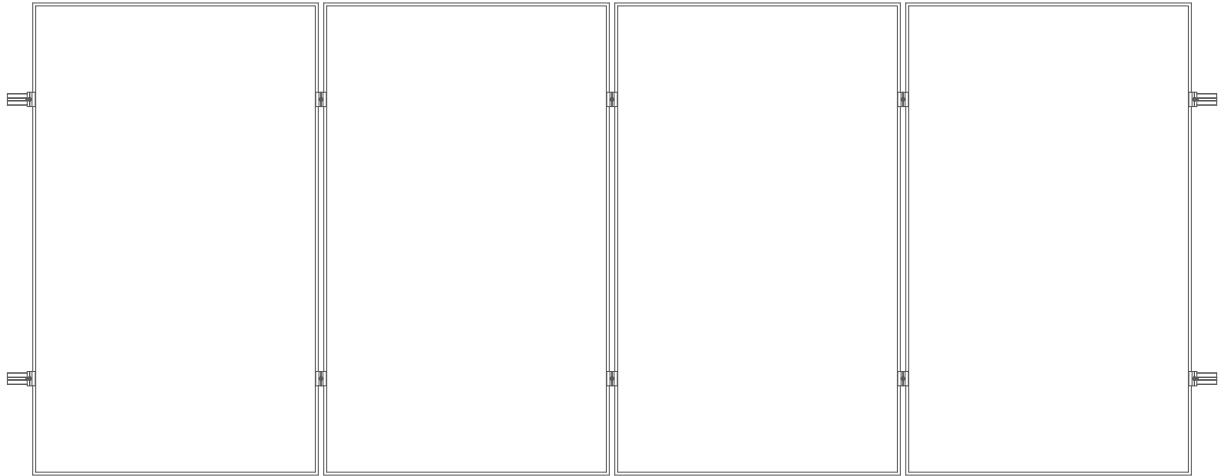
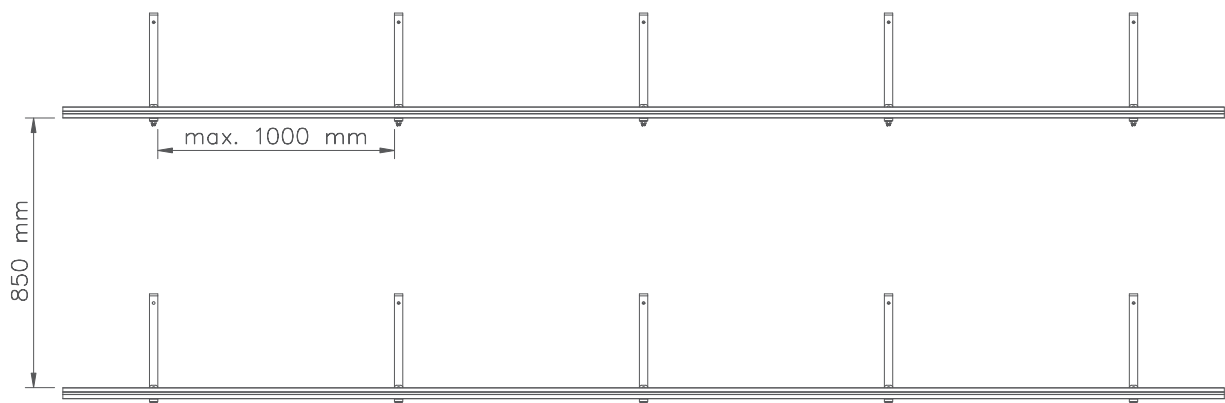

Fig. 1. module placement plan
Fig. 2. arrangement of the mounting rails with roof attachment
- 1 Before mounting, it is necessary to determine the distribution plan of the modules on the roof (Fig. 1). This is the basis for the distribution of the mounting rails with all accessories (Fig. 2).